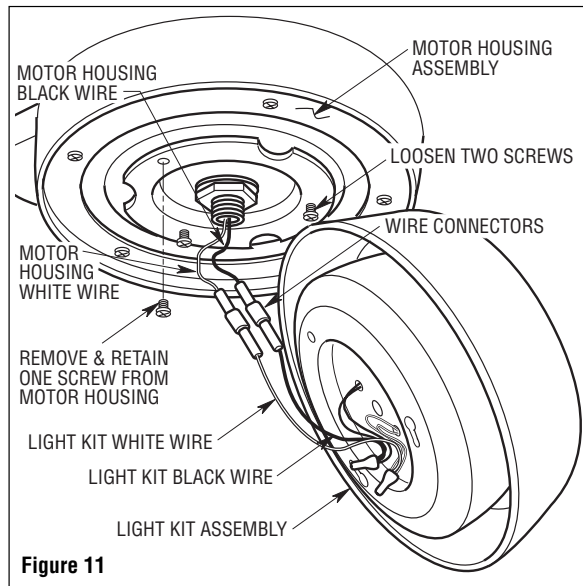

Figure 11
2. Remove one screw (retain for future use) and loosen the two other screws in the motor housing for installation of the light kit assembly (Figure 11).
3. Connect the white wire from the ceiling fan assembly to the white wire of the light kit assembly (Figure 11). Connect the black wire from the ceiling fan assembly to the black wire of the light kit assembly.